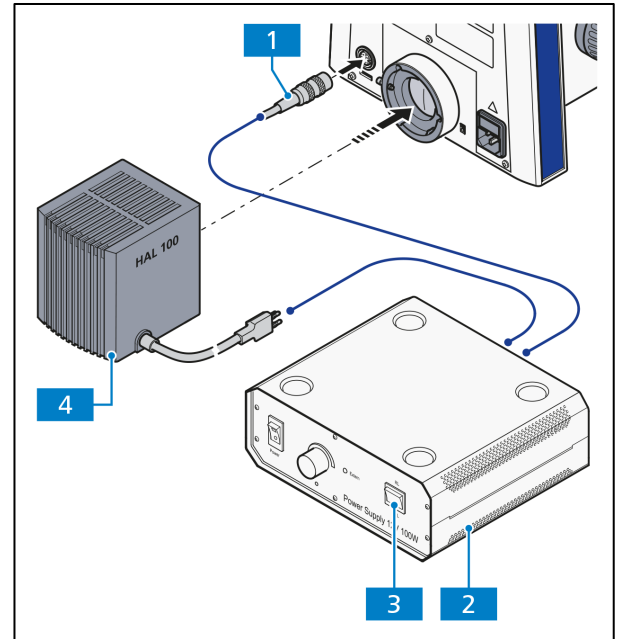
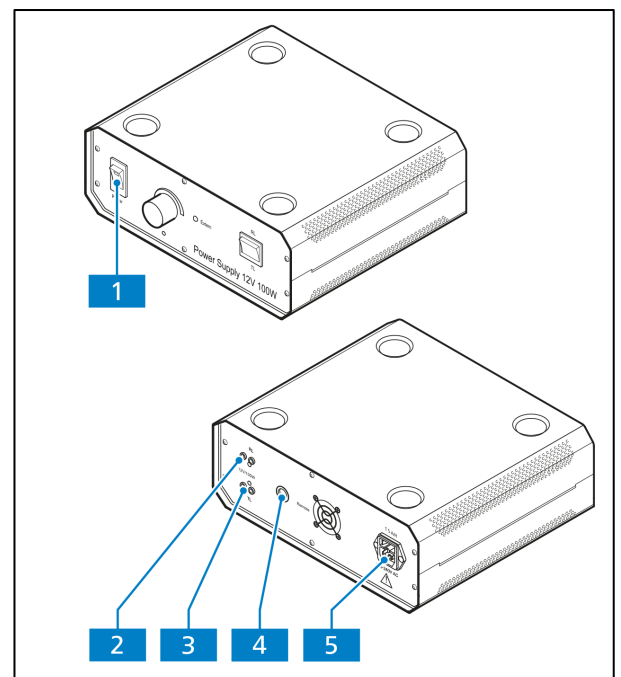

Fig. 3-61 Lower stand part for HAL 100 illumination
Fig. 3-62 External power supply unit for two lamps (front and back)
- Mount the HAL 100 (Fig. 3-61/4) on the transmitted light connector of the stand (see also section 3.1.19.1).
- Connect the 3-pole lamp plug of the HAL 100 to the port for transmitted light **TL** (Fig. 3-62/3) of the separate power supply unit for two lamps (Fig. 3-61/2).
- Connect the cable for illumination intensity control (Fig. 3-61/1) to the corresponding port (**Remote**) on the back of the stand or to that of the power supply unit (Fig. 3-62/4).
- Switch the toggle switch (Fig. 3-61/3) for reflected or transmitted light to the **TL** position (transmitted light).
- Connect the 3-pole lamp plug of the HAL 100 to the port for reflected light **RL** (Fig. 3-62/2) of the separate power supply unit for two lamps.
- Connect the power cord of the external power supply unit (Fig. 3-62/5) to an electrical outlet.
- Switch on the halogen illuminator for transmitted light (lower stand part for HAL 100 illumination) and reflected light (if in use) at its separate external power supply unit (Fig. 3-62/1) (also refer to the separate operation manual of the external power supply unit). Depending on whether you want to use the illuminator for reflected light or the illuminator for transmitted light, switch the toggle switch (Fig. 3-61/3) for reflected or transmitted light to the **TL** position (for transmitted light) or to the **RL** position (for reflected light).